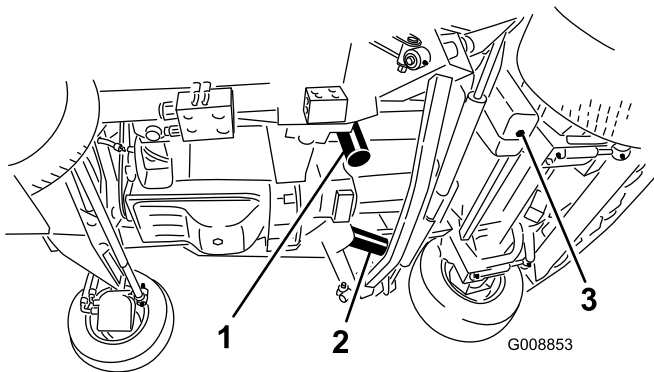

Figure 89
3. Remove the drain plug (Figure 89) from the bottom of the tank and let the hydraulic fluid flow into the pan. Install the drain plug when the hydraulic fluid stops draining.
4. Clean the area around the filter mounting areas. Place a drain pan under the filter and remove the filter (Figure 89).